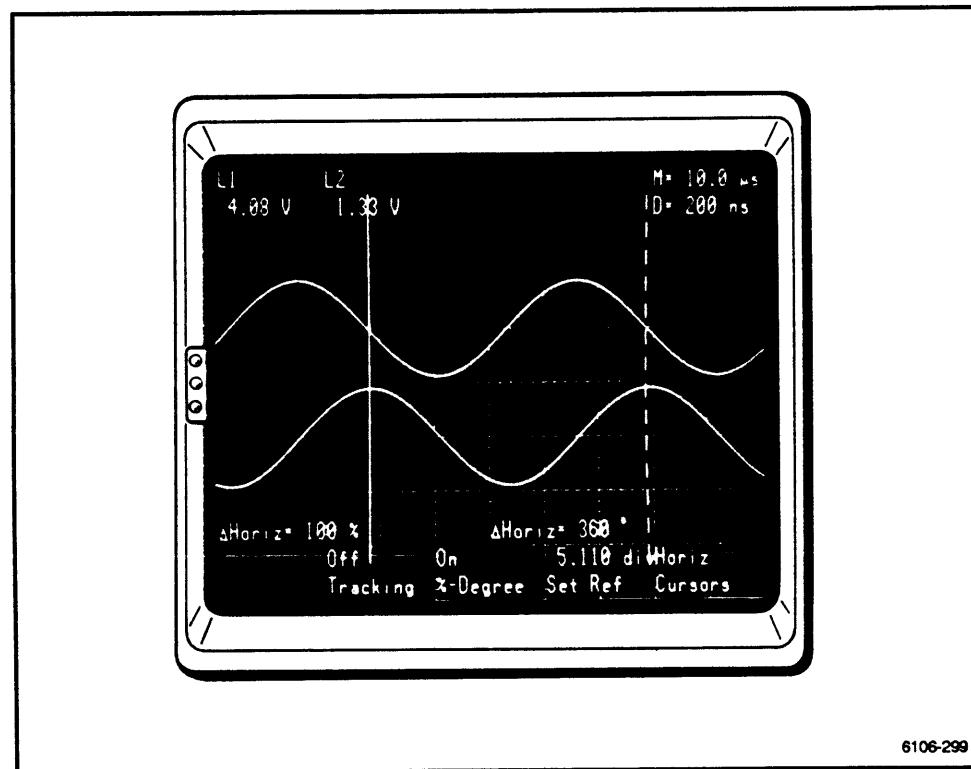

Figure 2-100. Selecting one cycle with the Horizontal Cursors.
5. Adjust both Cursors to span one cycle of the leading trace. Each cursor should intersect the trace and the horizontal graticule line which bisects the trace. (See Fig. 2-100.)